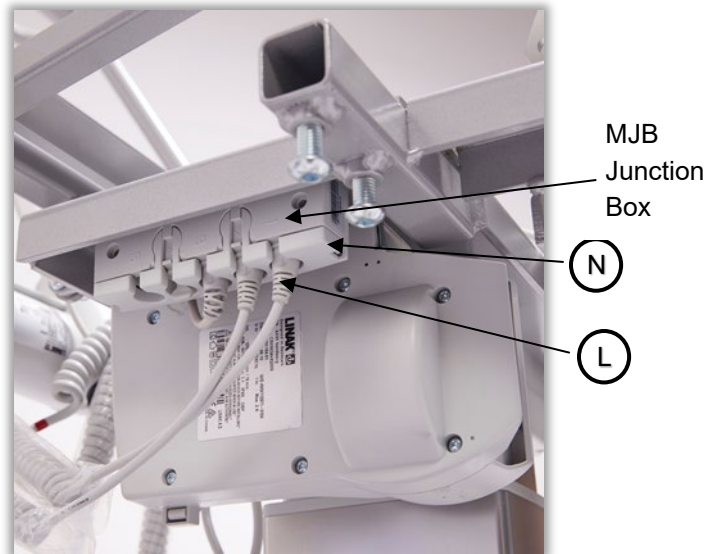

FIGURE 12. MJB JUNCTION BOX
5. Undo the retention clip (**N**) from the MJB junction box using a screwdriver, located underneath the chair (**Figure 12**).
6. Disconnect all the cables/ports (**L**) connected into the MJB junction box (**Figure 12**).
4. Undo the retention clip (**N**) from the MJB junction box using a screwdriver, located underneath the chair (**Figure 12**).
5. Disconnect the cable of the Hand Control (**L**), from the MJB junction box (**Figure 12**).